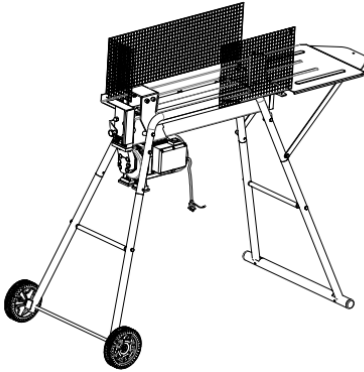

Figure 1
The figure 1 shows the maximum log sizes that can be split.
The diameter of the log is indicative: a small log can be difficult to split if it has knots or a particularly tough fiber. On the other hand, if the wood has regular fibers, it is not difficult to split logs with diameter greater than the maximum shown in fig. 1.
Step 3: Make the three inner hexagon bolts M8×16(7) and three M8 gaskets, successively through the installation hole of the right cover (11), use the hexagon wrench and the screw hole on the right leg for connection and fixation
Step 4: Step 5: Make the two inner hexagon bolts M8×16(8) successively through the installation hole of right and left cover (10,11) and the stock support plate (1), at the same time, use the hexagonal wrench and the general wrench to tighten the two M8 nuts and bolts.
Step 5: Make the two inner hexagon bolts M8×16 (8) successively through the installation hole of the supporting plate and the stock support plate (1), at the same time use the hexagonal wrench and general wrench to tighten the two M8 nuts and bolts.
Step 6 □ Secure the left guard and right guard with the corresponding holes of the left and right support plates using the buckle combination (5) respectively, and tighten them with a wrench (see Figure 1).